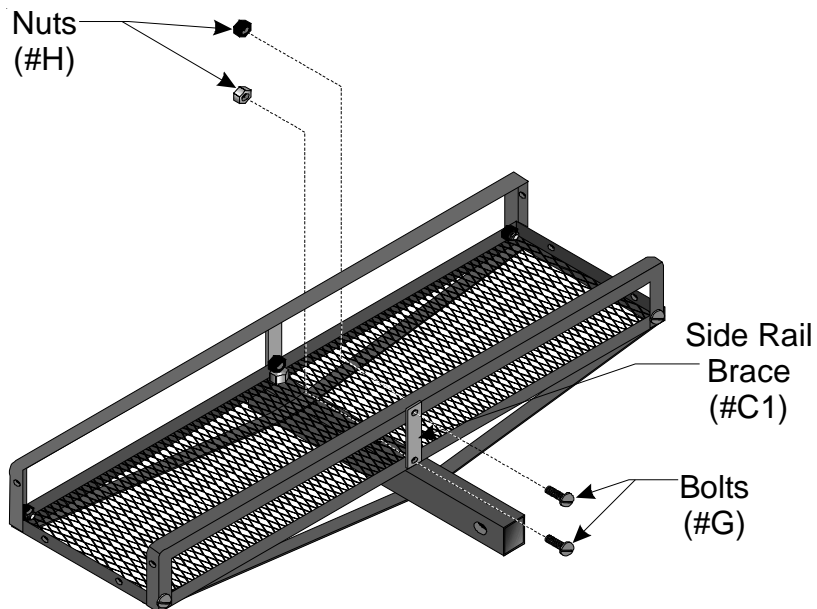

Figure 4 — Attaching Center Side Rail Braces
Step 2: Place a SIDE RAIL BRACE (#C1) outside on the vertical folded edges of the DETACHABLE SIDE RAIL and BED FRAME as shown in Figure 4.